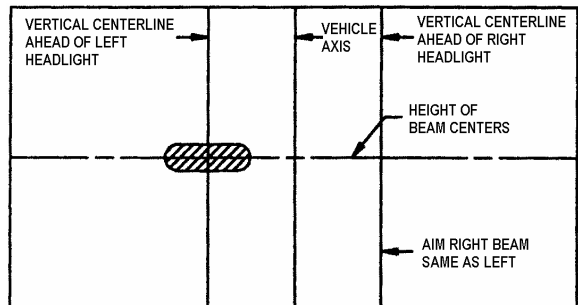

FIGURE 43: HIGH-INTENSITY ZONE (SHADED AREA) OF A PROPERLY AIMED UPPER BEAM ON THE AIMING SCREEN 7.6 M (25FT) IN FRONT OF VEHICLE 06503
5. High beam headlights are aimed so that the center of the high-intensity zone is located at the horizontal and straight ahead vertically (Fig. 43).